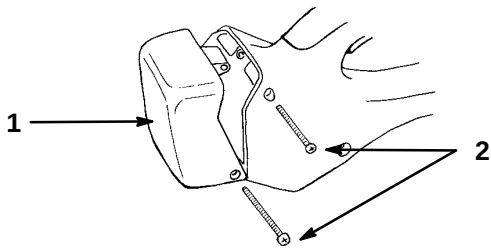

Figure 15
1. Remove the two screws securing the battery cover and remove the cover (Fig. 15).
14. Replace the battery cover and secure it with the screws removed previously (Fig. 15).
6. Replace the battery cover and secure it with the screws removed previously (Fig. 15).